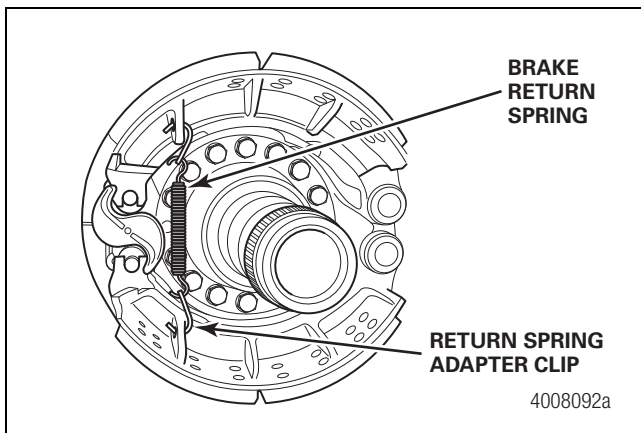

Figure 9.3
- 6. Disconnect and remove the brake return spring and clips. Figure 9.3.